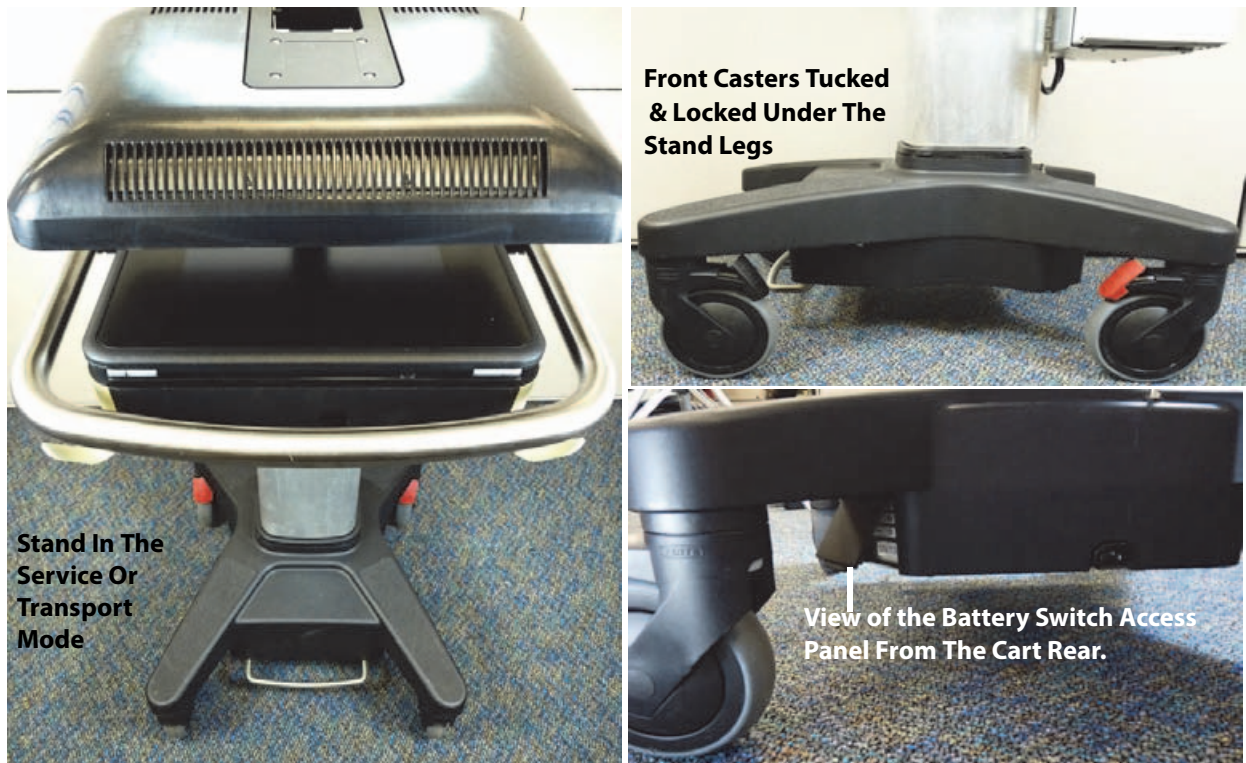
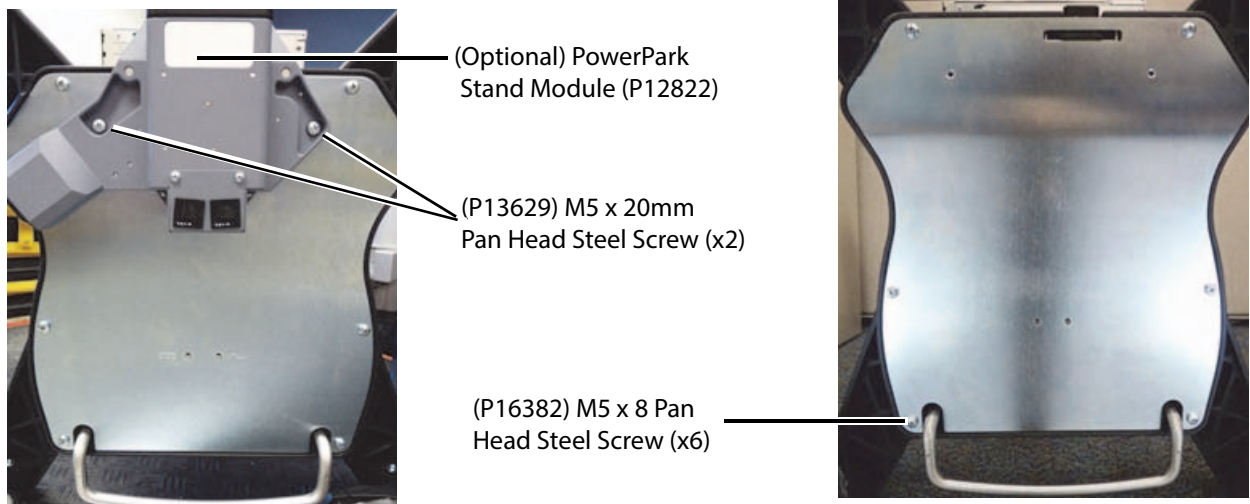

Figure 6.7 Stand Adjusted for Service or Transport
Figure 6.9 Stand Bottom Plate
- 5 Position the touch Control Panel to the horizontal (shipping position). Refer to Figure 6.7 on page 41.
- 6 Fold the Clinical Monitor display to the horizontal (shipping position). Refer to Figure 6.7 on page 41.
- 8 Position the two front casters under the stand caster legs and lock all four casters. Refer to Figure 6.7 on page 41.
- 9 Access the three battery switches and set all switches to the “•O” (OFF) position. Refer to Figure 6.7 on page 41.
- 11 Remove the PowerPark Stand Module two mounting M5 x 20mm (P13629)Phillips screws. This is an optional feature and may not be present on your stand. Refer to Figure 6.9 on page 42
- 12 Remove the six M5 x 8 (P16382) Phillip screws securing the bottom plate and remove the plate. Refer to Figure 6.9 on page 42
- 1 Please refer to section in this chapter titled “Stand Power Management Unit (SPMU) Removal” and follow steps 1 through 11. Please refer to Figure 6.7 on page 41, Figure 6.8 on page 41, and Figure 6.9 on page 42
- 2 Access the three battery switches and set all switches to the “**ⓘ**” (ON) position. Refer to Figure 6.7 on page 41
- 2 Access the three battery switches and set all switches to the “**•ⓘ**” (OFF) position. Refer to Figure 6.7 on page 41.
- 2 Access the three battery switches and set all switches to the “**ⓘ**” (ON) position. Refer to Figure 6.7 on page 41.